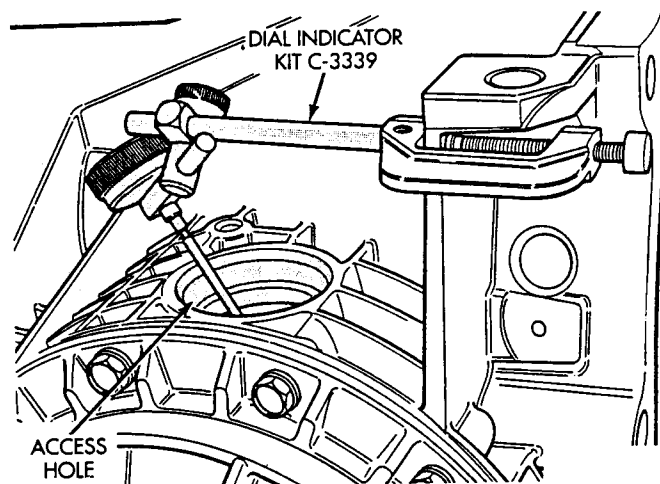

Fig. 44 Dial Indicator Installation
(49) To check and/or adjust backlash remove the inspection plug from the top of the differential and install dial indicator as shown in figure 44. The tip of the dial indicator must be perpendicular against one of the ring gear teeth. Hold transfer shaft with locking pliers. Move ring gear back and forth with special tool 6548. Read the amount of backlash with dial indicator. Backlash should be 0.006" to 0.009" thousands of an inch.